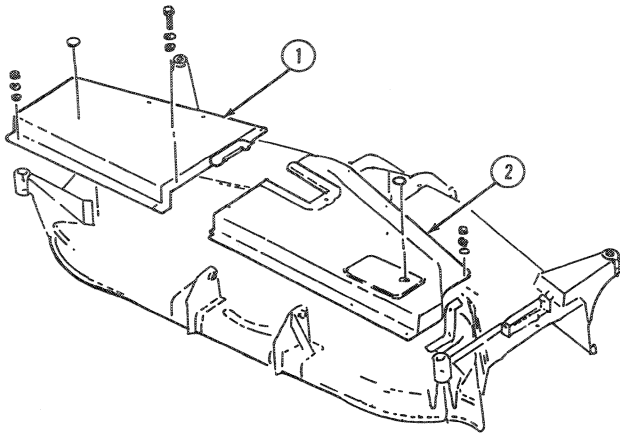

FIGURE 10-25
1. Remove the left and right belt covers, 1 and 2, Figure 10-25.